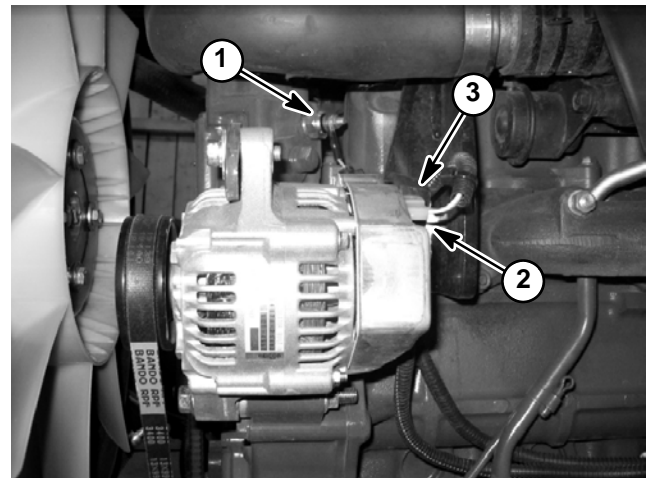

Figure 12
- B. The temperature sender (Fig. 12).
- C. The alternator (Fig. 12).